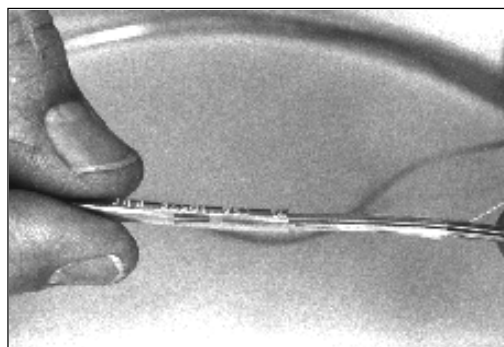

FIGURE 26 - FIBER THROUGH TRANSPORT TUBE
14.06 Gently pull the fiber group through the transport tube. (Figure 26)